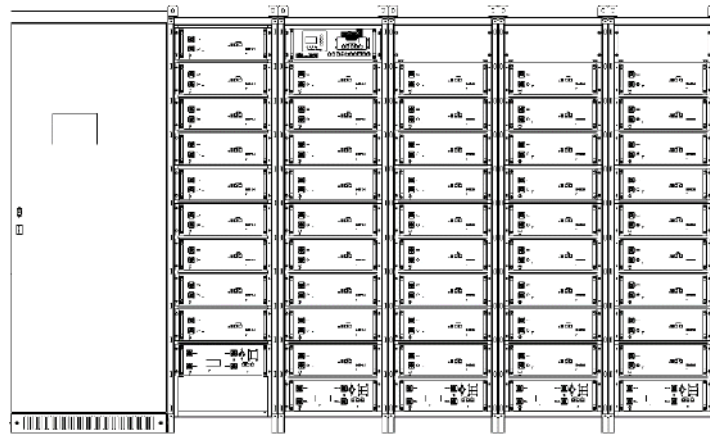

Figure 4.11 All batteries installation
Step 5: If there are more than one rack, please repeat step 3 and 4 to install the other battery racks as Figure 4.11 shows.